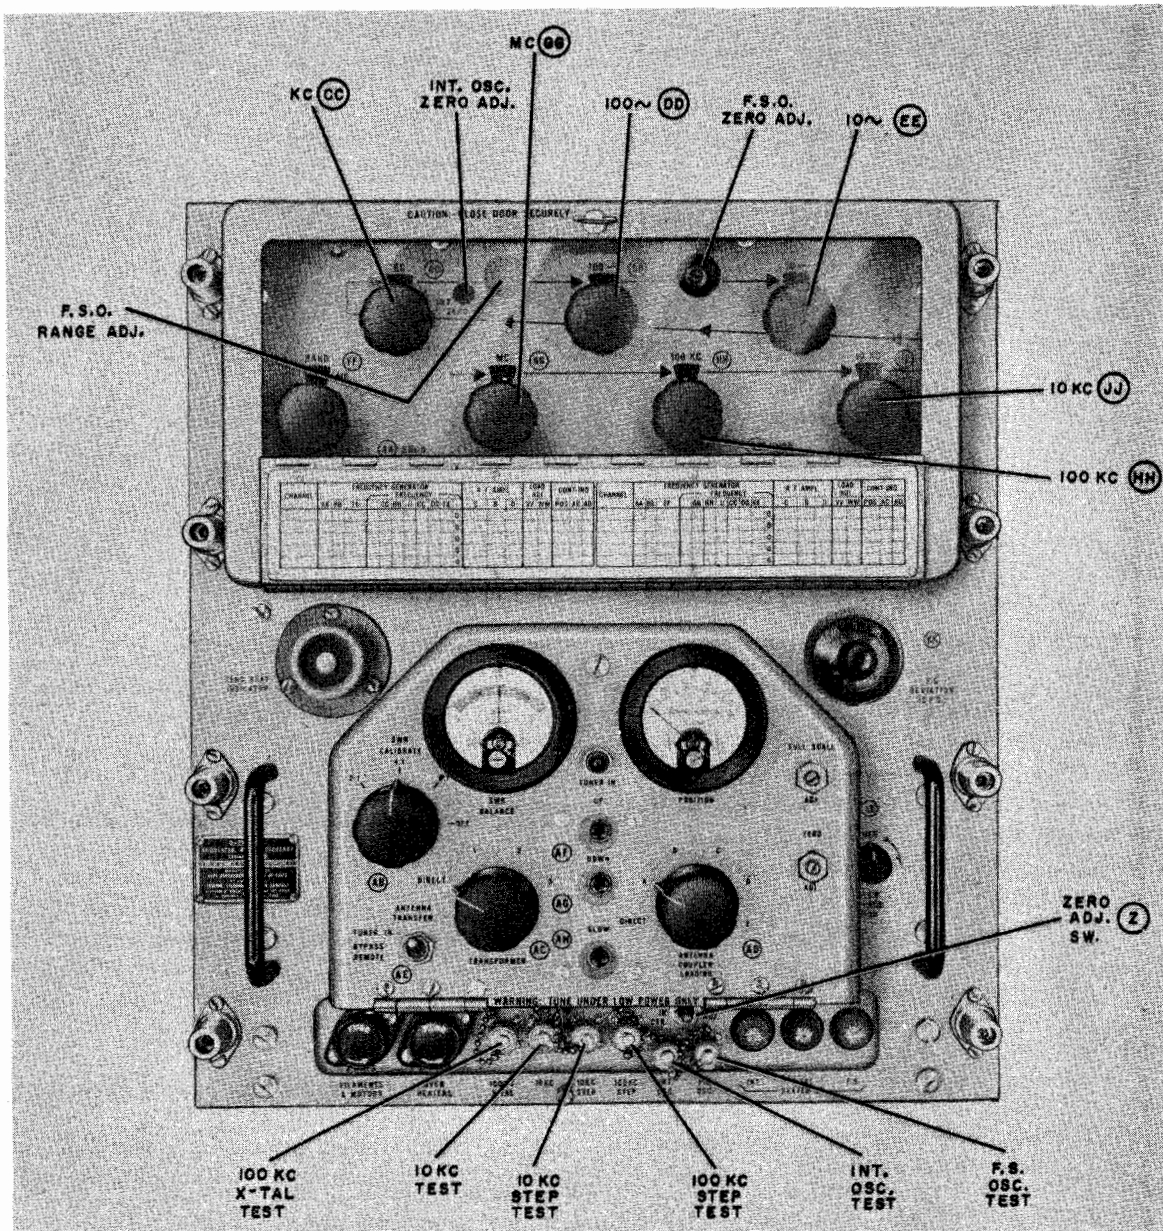

Figure 6-10. RFO, Front Panel Unit Adjustments
Step 5. Open the access door on the front of the RFO and adjust the control marked INT. OSC.—ZERO ADJ. to obtain a correct 1:1 Lissajous pattern, if necessary. (See figure 6-10 for location of this control.)
(See figure 6-10.)
(5) UNIT 12.—R-F Oscillator Z-2127 (unit 12) is commonly called the frequency shift oscillator (FSO). For purposes of this section, unit 12 requires one routine check and adjustment—the 100-kc adjustment (see figure 6-10).
- Step 1. Place the 100 KC knob  $\oplus$  in its 0 position. (See figure 6-10 for location of 100 KC knob.)
- Step 1. Place 100 KC knob  $\oplus$  at 0. (See figure 6-10.)